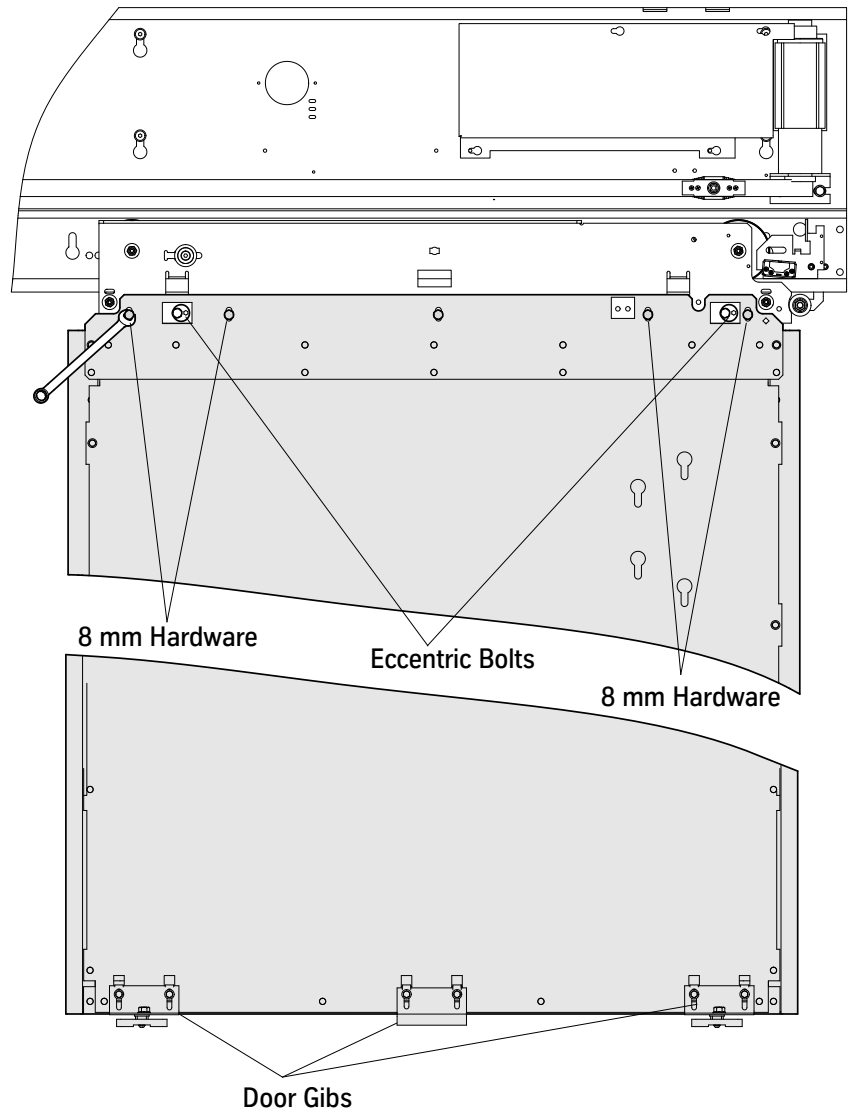

Figure 44 - Tighten Mounting Bolts
4. Use a 13 mm wrench to tighten the eccentric bolt; then tighten the mounting bolts. See Figure 44 on page 53.